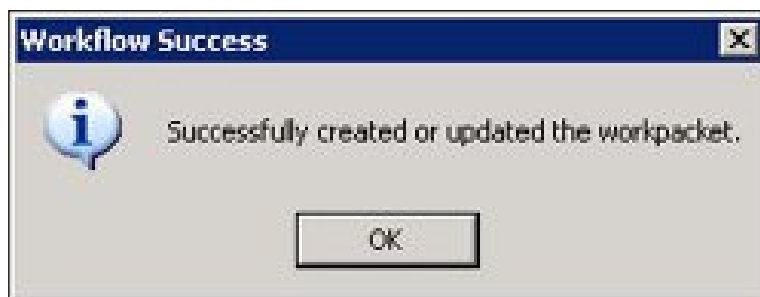

Figure 7-100: Workflow Success Message
- b. Click the OK button. The Workflow Success message is displayed (Figure 7-100).